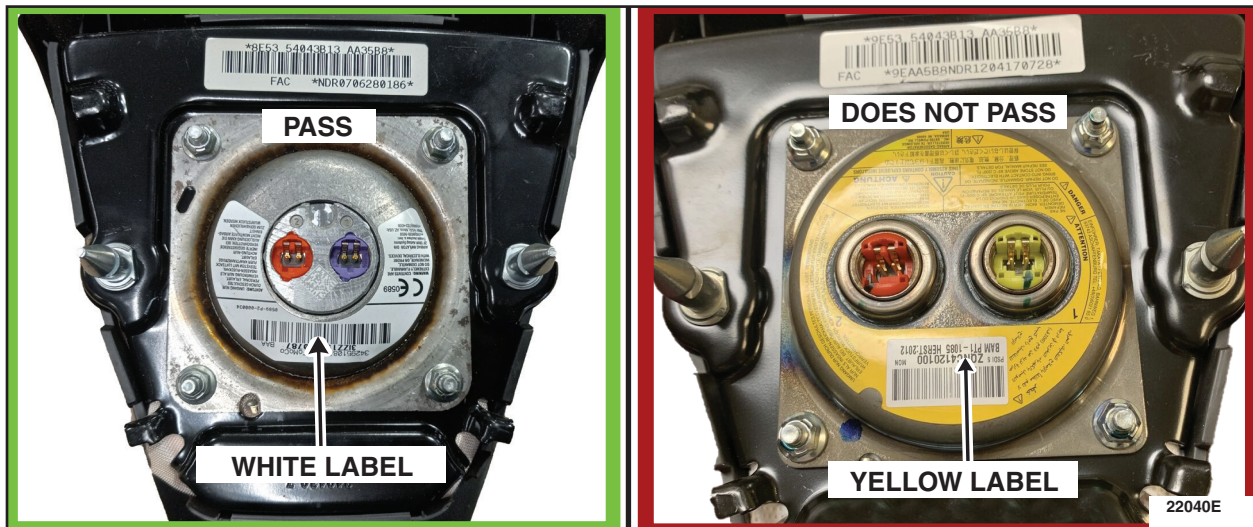

FIGURE 4
3. Inspect the label on the Driver Airbag inflator as shown in Figure 4. Is the label white in color?